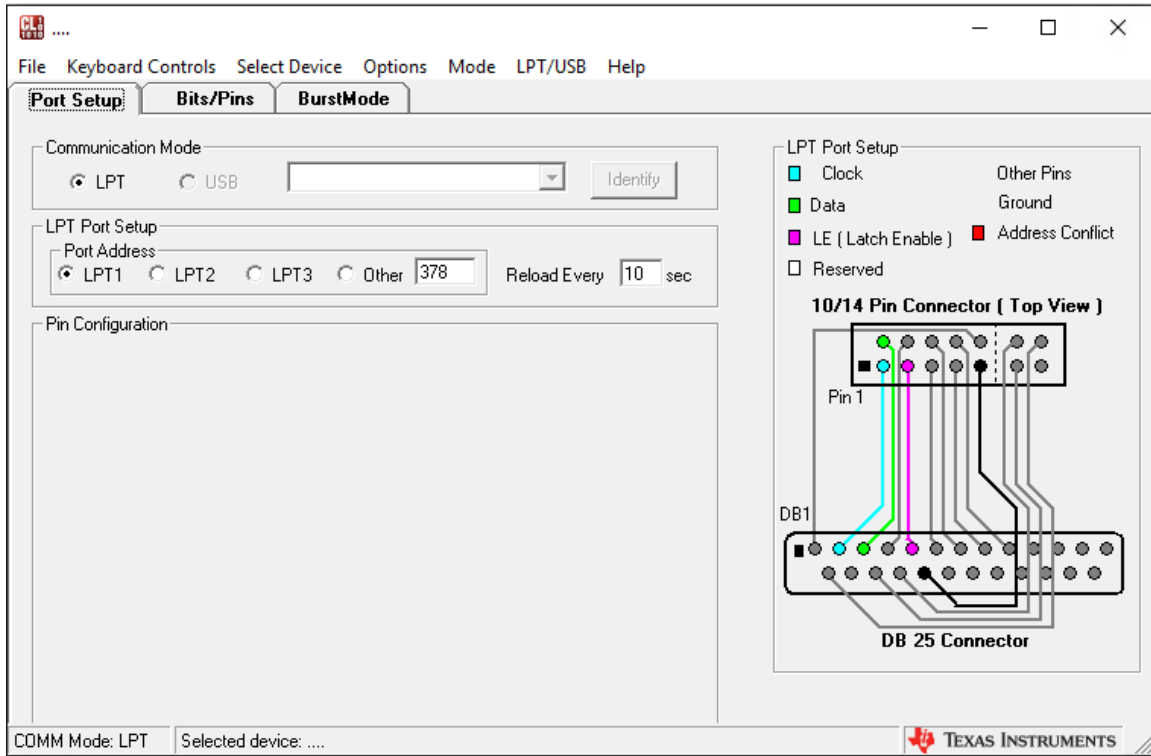

Figure 5-9 CodeLoader
5. Firstly, download “CodeLoader” Software(See Figure 5-9), which is provided by TI. This tool can help users to set the LMK04096B's output frequency of each channel through the GUI interface, and it will automatically calculate the Register parameters required for each frequency. The tool download link: